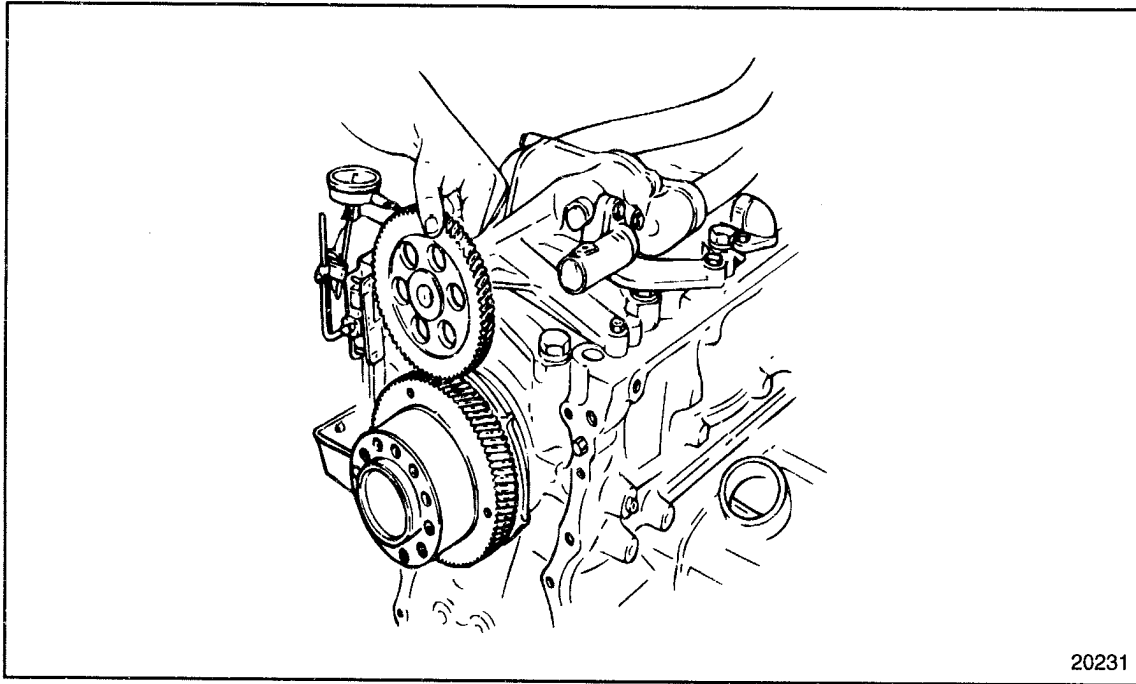

FIGURE 1-252 Crankshaft Timing Gear-to-Oil Drive Gear Lash Measurement
- [a] Fasten a dial indicator and magnetic base to the cylinder block so that the stem of the dial indicator rests on a tooth of the oil pump drive gear. See Figure 1-252.
The lash between the crankshaft timing gear and oil pump drive gear must be measured with the engine in a running position. See Figure 1-252.